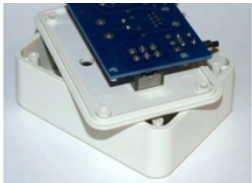

Figure 3.3-4: Toggle Switches Held Straight by the Control Box Lid during the Soldering Process
4) Find the two toggle switches and the control box lid. Place the switches in the "SW1" and "SW2" locations on the PCB, as shown in Figure 3.3-4. It is also important to keep these switches flat against the board while they are soldered into place, so that they will be straight when the control box is
finished. A good way to do this is to use the control box lid to hold the switches while soldering. Put the toggle handles through the two center holes in the control box lid (they may be tight). Then, while holding the PCB against the back of the switches, turn the assembly over and place it across the open top of the control box, as shown in Figure 3.3-4. Hold the PCB down flat while soldering the first of the 12 switch connections, to make sure that it will be tight against the switches.